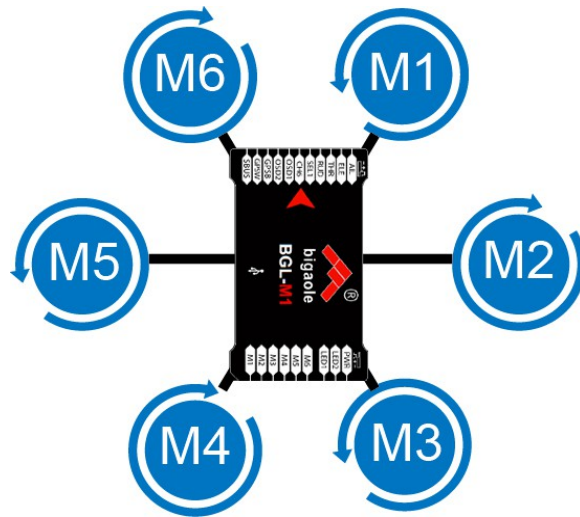

Figure 3: Six X font installation
- ◆ Six X font installation instructions in Figure 3 as below: